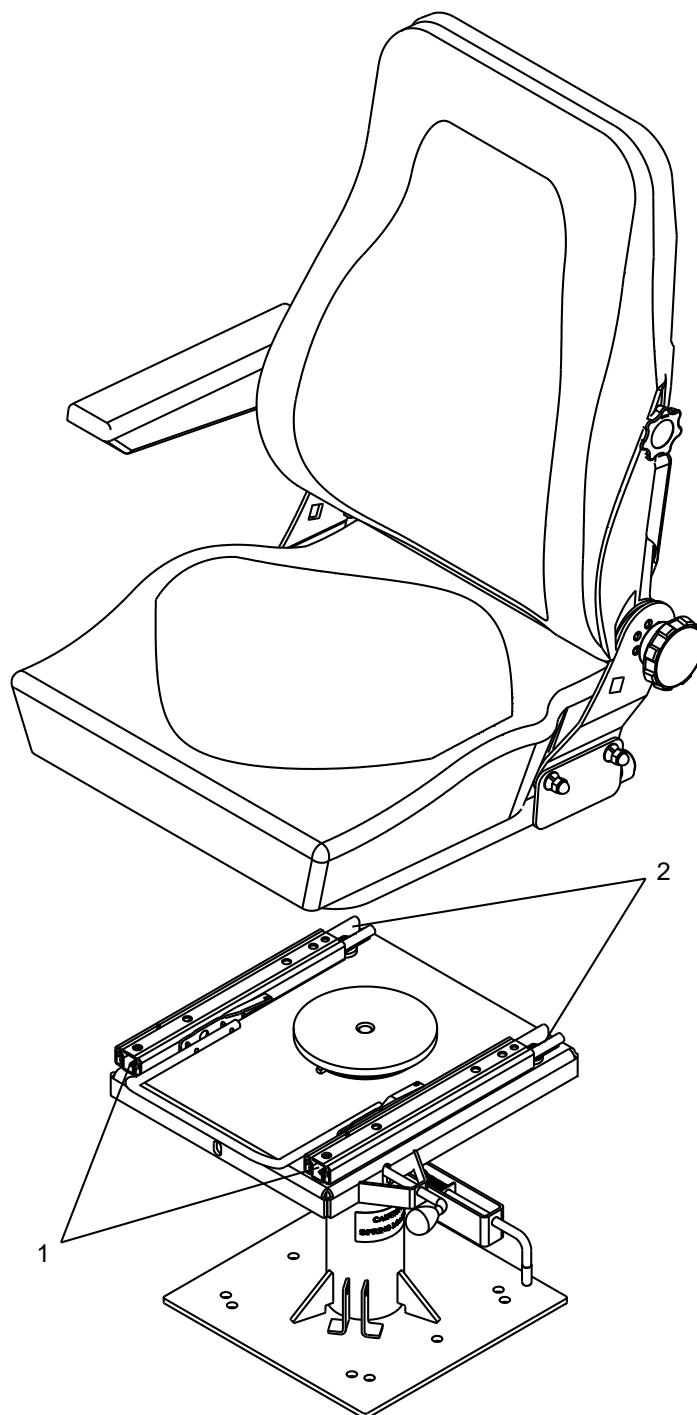

Figure 6-2: Lubricate Fore/Aft Slide of Operator's Seat
3. Place the seat in full aft position and apply a small amount of Lubriplate 110 to the front of the slide rail (1). See Figure 6-2.
4. Move the seat to the forward position and apply a small amount of Lubriplate 110 to the rear of the slide rail (2).